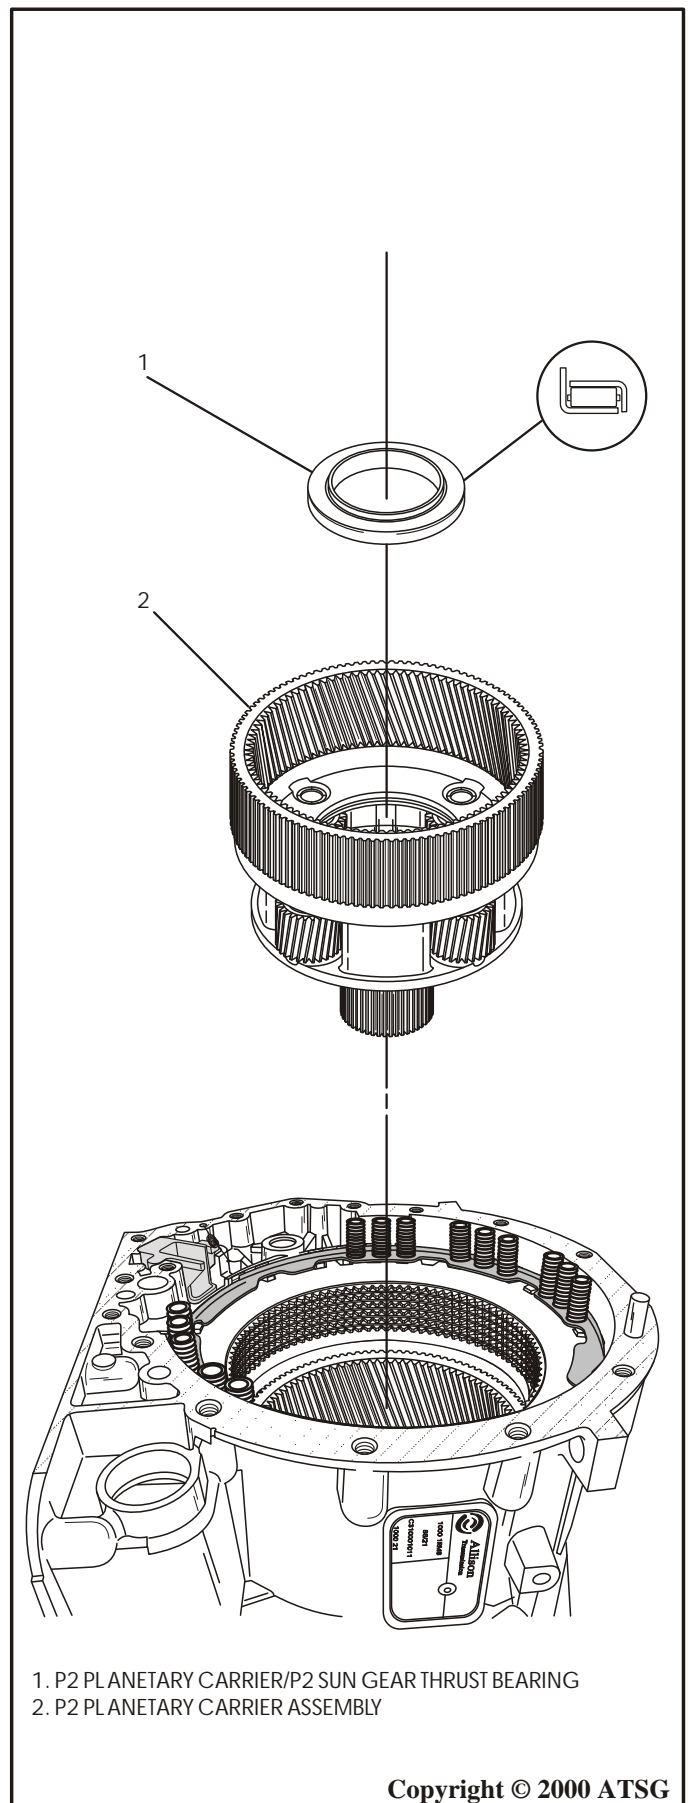

Figure 157
27. Install the pre-assembled P2 planetary carrier assembly by rotating back and forth, into the P2 ring gear and ensure that ring gear teeth engage with all C5 lined plates, and is fully seated against bearing (See Figure 157).
28. Install P2 Planetary Carrier to P2 Sun Gear Thrust Bearing into the P2 carrier, in direction shown in Figure 157.